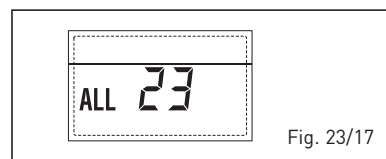

Fig. 23/17
- ANOMALIA Sonda COLETOR SOLAR (S1) "ALL 24" (fig. 23/18)